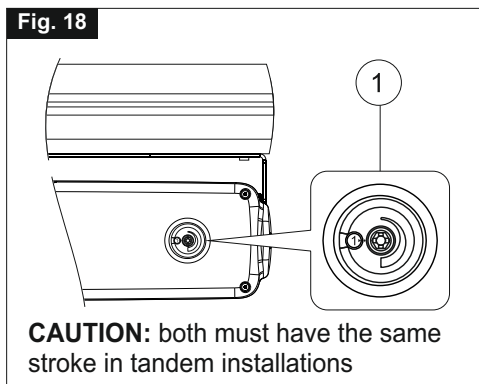

Fig. 19
- 8) **Fig. 19-** Connect the actuator to the semi-automatic coupling inserting the chain adjustment end first of all in the left connection point (**Ref. 1**) and then in the right connection point (**Ref. 2**);